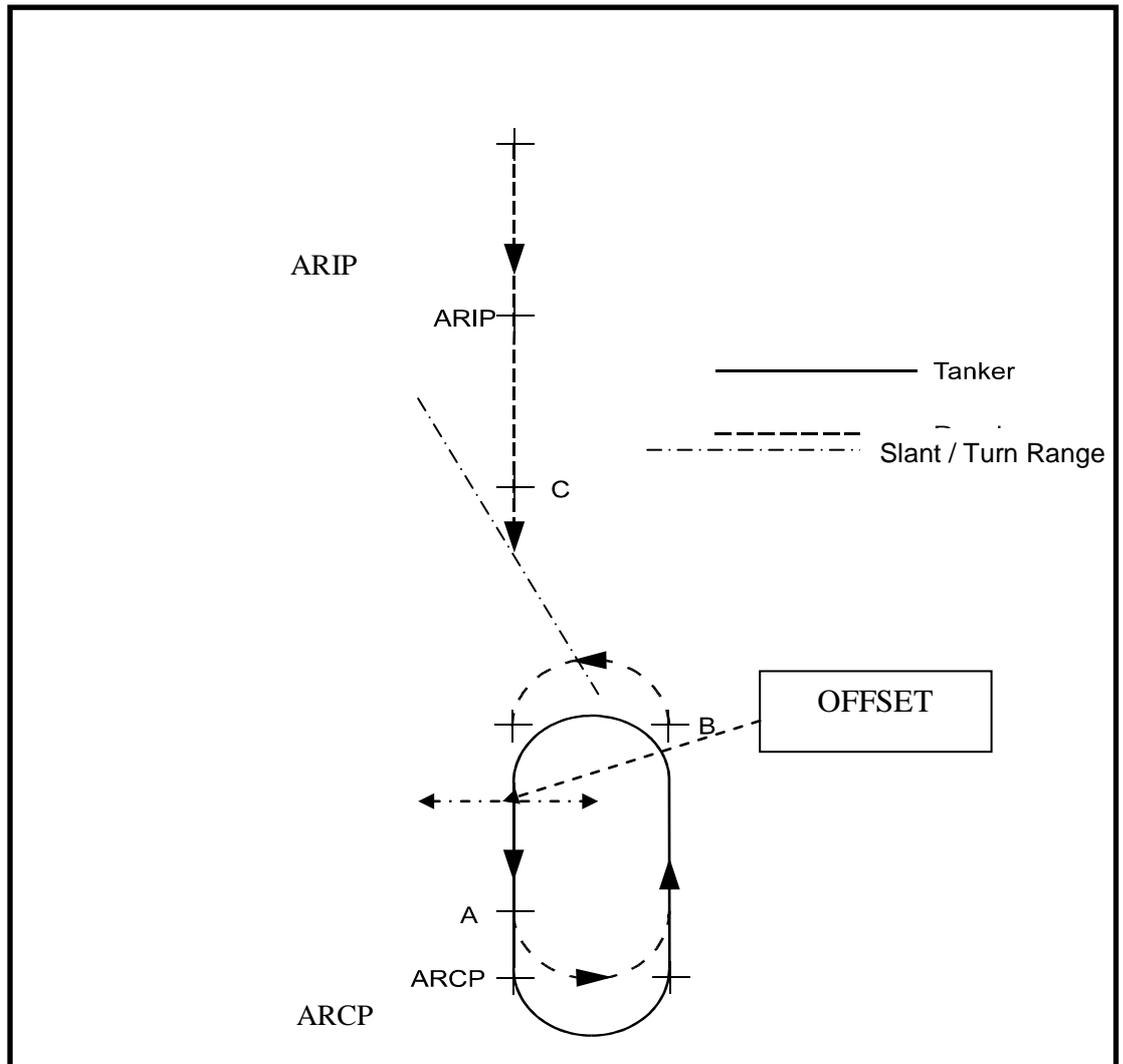

Figure 2D-1. Diagram of RV Delta (Point Parallel)
- (1) Be established at 1000 ft below the assigned base AAR altitude when departing the ARIP.
- (2) Enter the track via the ARIP and should aim to be at the ARCP at the ARCT (see Figure 2D-1).
- (3) Depart from the ARIP and not deviate from the ARIP/ARCP centreline unless directed to do so by the tanker.
- (4) Aid the RV, when so equipped, by remaining in electronic contact on radar, A/A TACAN, TCAS or other means as soon as possible, but no later than 50 nm range or the ARIP, whichever occurs first, until reaching the Echelon Left position (drogue) or astern position (boom).